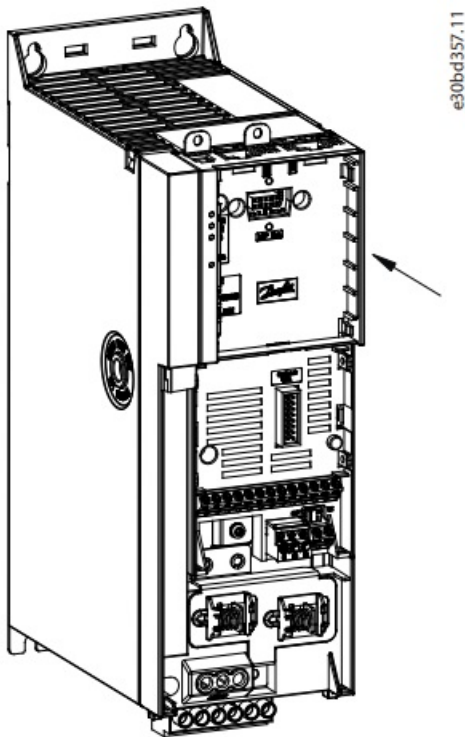

Figure 3: Slide the Control Cassette into Place
3. Place the control cassette on the drive and slide it into place as shown in Figure 3.